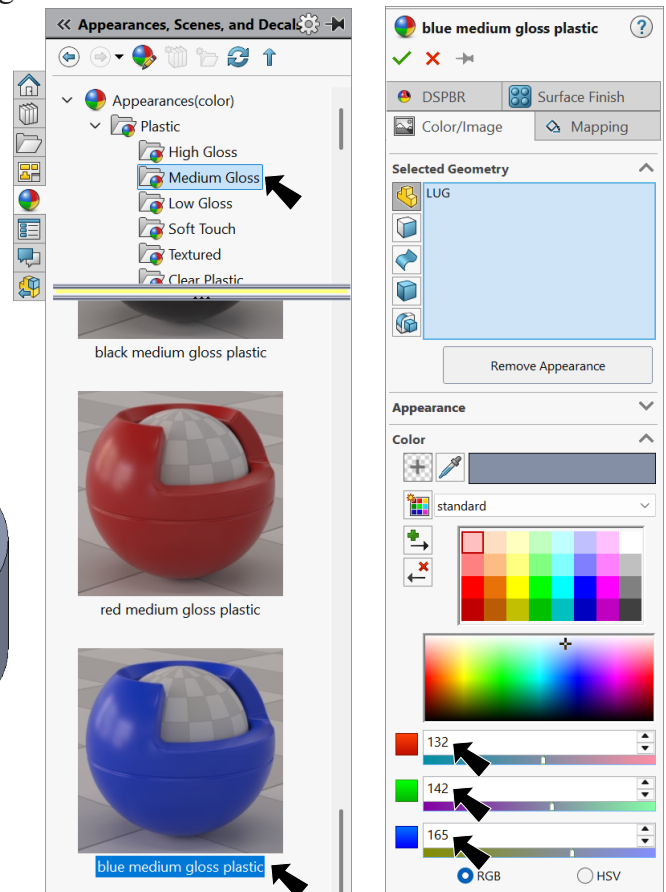

Fig. 14
Step 3. In the Appearances Task pane, expand **Plastic**, click **Medium Gloss** and in the lower pane select **blue medium gloss plastic**, Fig. 14.